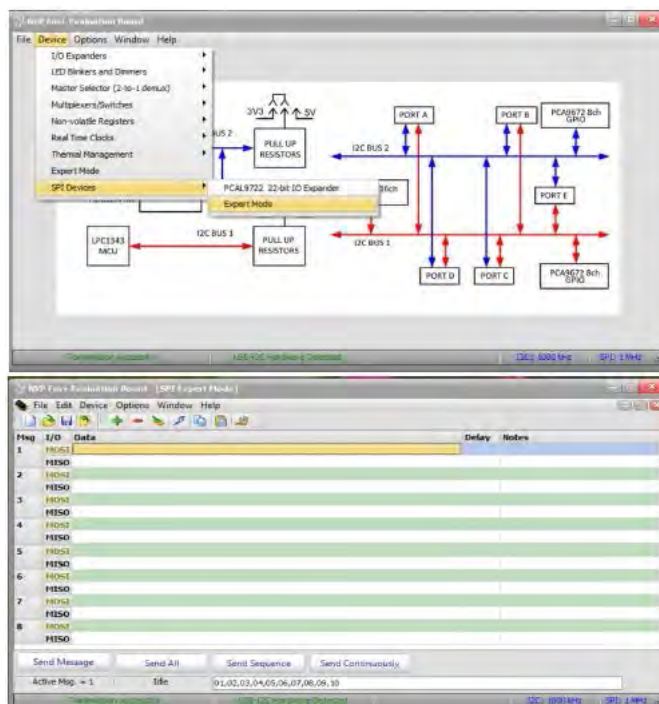

Fig 8. Selecting Expert Mode from Fm+ development board GUI
The PCA9745B is controlled by Fm+ development board GUI in Expert mode as shown in Fig 8.
Connect the hardware as described in Section 4.2. All jumpers are in default setting for PCA9745B demo board. When you have correctly installed the software and the demonstration board hardware is connected and recognized by the computer, start the Fm+ development board software. As shown in Fig 8, when the demonstration board hardware is correctly connected to the USB port and the computer recognizes it, the message “USB-I2C Hardware Detected” is displayed on the bottom of the window. SPI Frequency is controlled through the “Options” menu or by clicking on the frequency symbol on the bottom of the window.
1. From the ‘Device’ drop-down menus select ‘Expert Modes’ as shown in Fig 8.
- 1. From the ‘Device’ drop-down menus select ‘Expert Modes’ as shown in Fig 8.